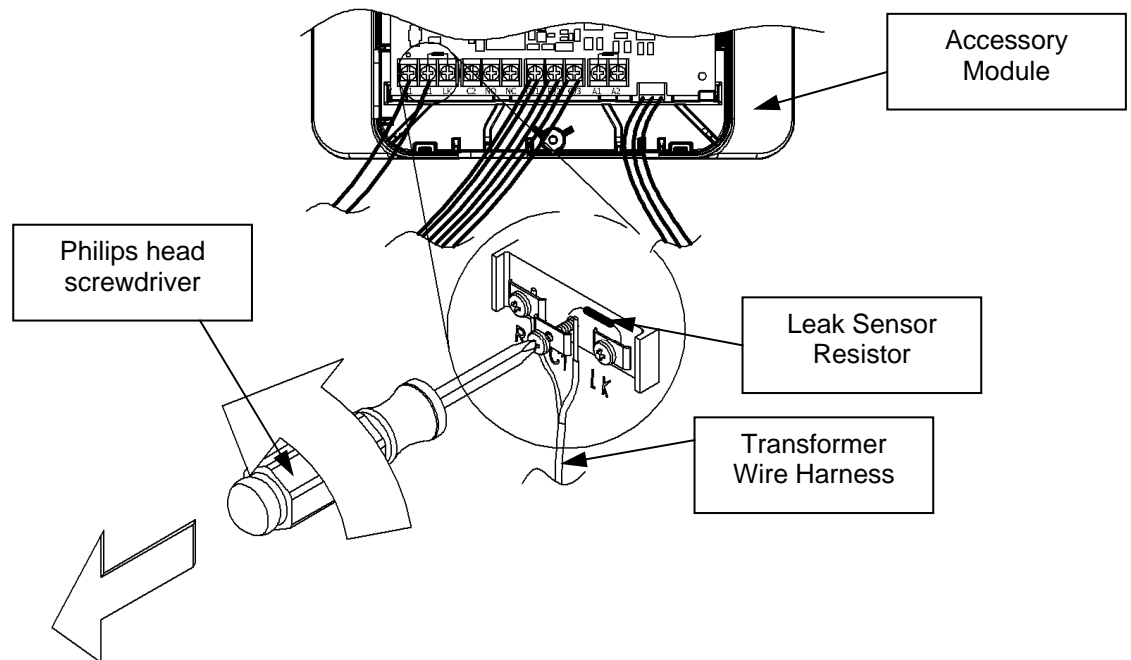

Figure 55
Step 4: Loosen the screw labeled "C1," as shown in Figure 55. Ensure that the Transformer wire harness wire going to this same location remains inserted under this screw.